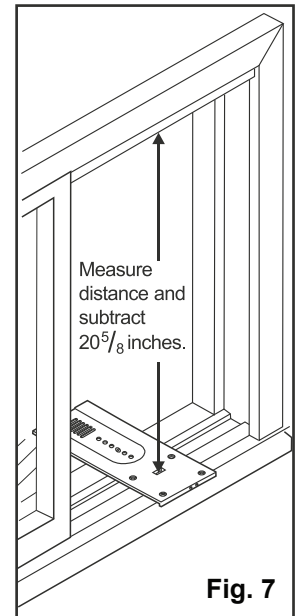

Fig. 7
6. Place platform assembly. (Fig. 7)
Adjust the platform assembly so that the outside edge is $\frac{5}{16}$ inches lower than inside edge. (Fig. 7) This ensures proper water drainage from the air conditioner.
7. Measure the height of the window opening. (Fig. 7)